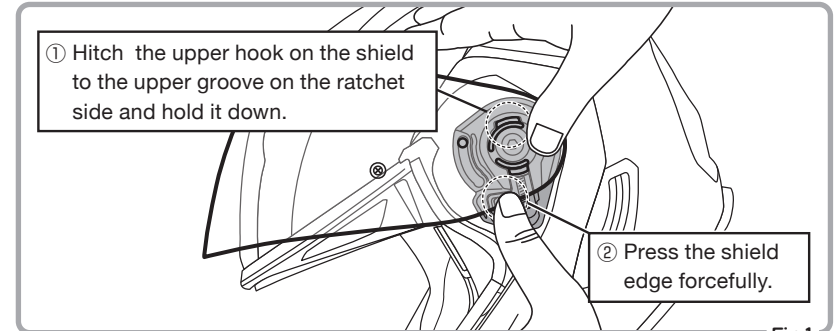

Fig.1
- ① Attach the upper hook on the shield by pressing on the part shown in Figure 1 of the shield while hooking it to the upper groove located in the shield ratchet. Install the opposite side in the same way, and implement the opening and closing operations about 3-4 times to check for any abnormalities.
- ② Press the shield edge forcefully.